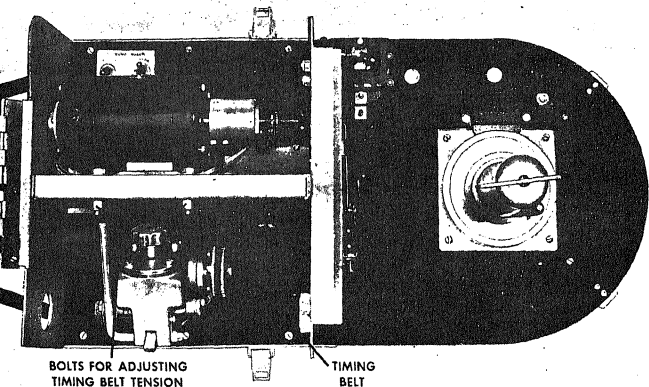
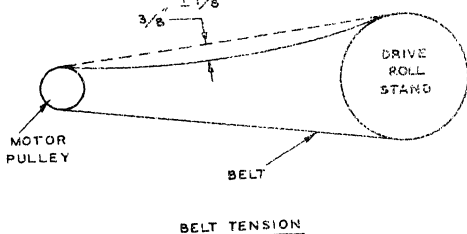

Figure 15. Timing Belt Adjustment
Figure 16. Adjustment Point for Timing Belt
d. Replace timing belt (Fig. 15) if worn or frayed. Check for proper belt tension.
adjustment of the timing belt tension. To replace belt, it is not necessary to disturb this adjustment. The belt is eased off the pulleys and removed with the adapter is taken off the motor. Belt adjustment, however, is necessary whenever a motor is replaced. Adjust the timing belt (Fig. 15) by turning the mounting bolts until the tension on the belt is as shown in Figure 16. Make sure the motor is approximately parallel to the motor support, or the belt may run the drive roll pulley.